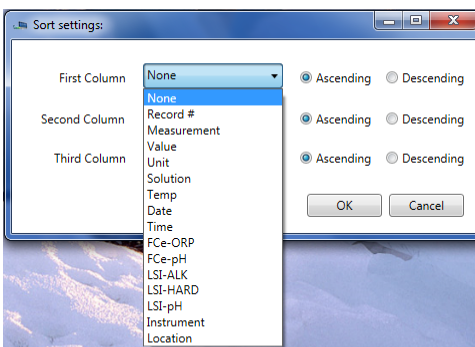

Figure 49
- Use the drop down menus from this window to select a data column for each of the three keys (Figure 49).